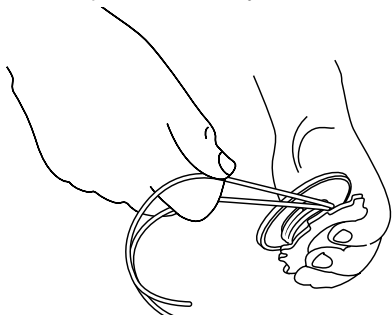

Fig. 18
6. Wind the lines in tight even layers, onto the reel (Fig. 18). Wind the line in the direction indicated on the inner reel. Place your index finger between the two lines to stop the lines from overlapping. Do not overlap the ends of the line.